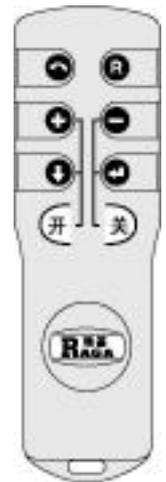

Fig. 3-1
3.1 Intrinsically Safe Setting Tool. (Fig. 3-1)